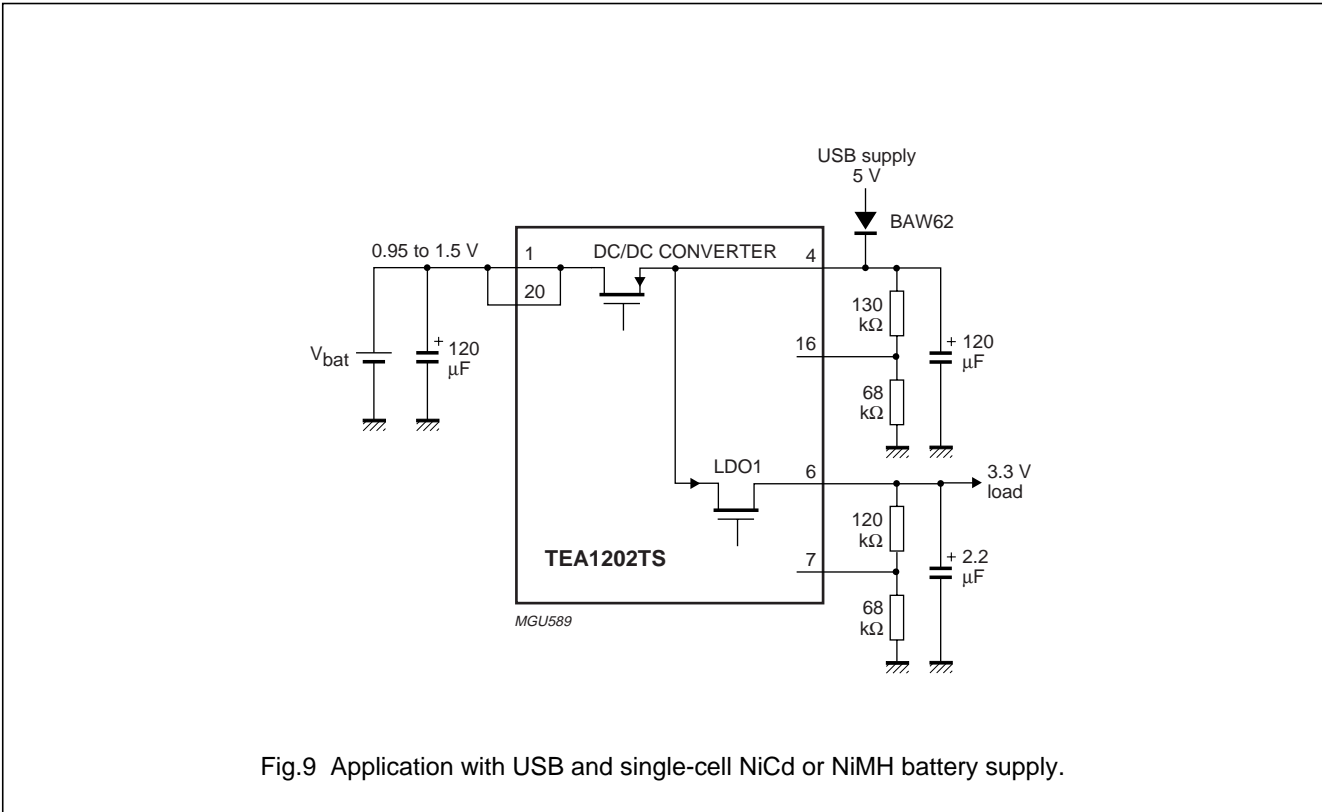

Fig.9 Application with USB and single-cell NiCd or NiMH battery supply.
7. With the USB and battery powered concept shown in Fig.9, LDO1 is used as a regulator and not as a switch. For a good load regulation, the DC-to-DC converter is set at 3.5 V and the LDO at 3.3 V. This reduces the efficiency by approximately 5%. However, the efficiency can be improved by lowering the voltage drop, but this will reduce the output voltage performance.